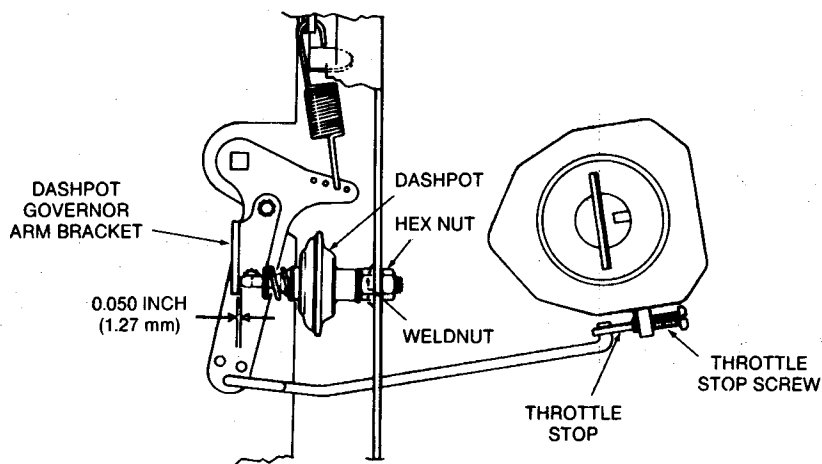

FIGURE 8. DASHPOT CLEARANCE
2. Holding throttle against throttle stop screw, adjust dashpot to obtain 0.050 inch (1.27 mm) clearance (Figure 8).